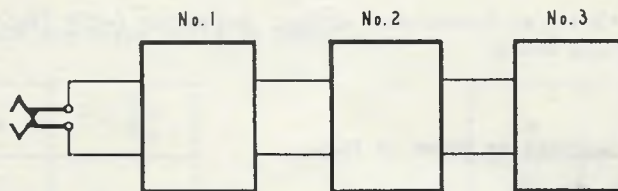

FIG. 2.
STEP 6. Connect the various models together. Remove strap (Fig. 1) from all models except No. 1 as in Fig. 2.